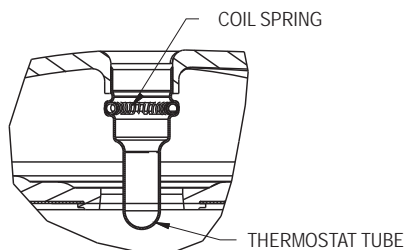

Figure 5. Coil spring location
b. Verify the coil spring is seated in the thermostat tube groove area (see Figure 5) on the top of the compressor. The spring is required for proper DTC valve installation.